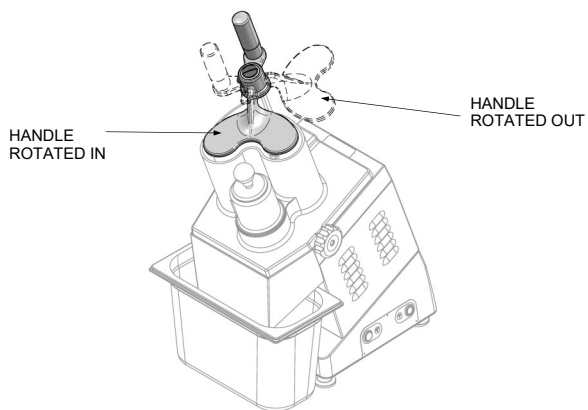

Fig 3: Pusher Handle Interlock
- a) On the pusher handle, if the pusher is lifted and rotated out of the mouth of the feed chute (Fig 3)